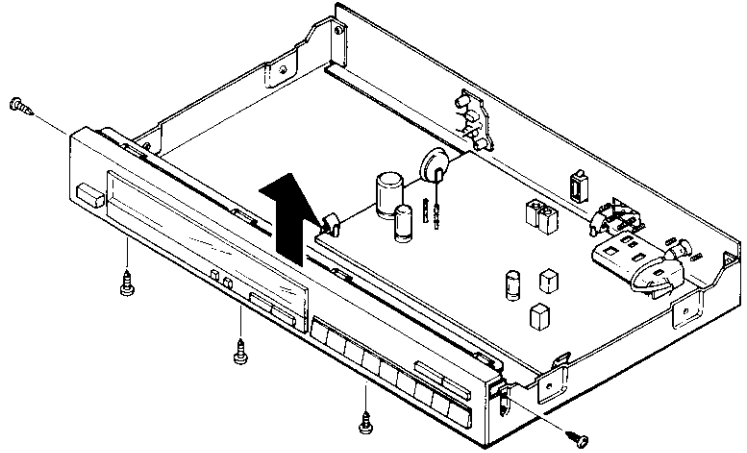

Fig. 7
2. How to remove the FRONT PANEL (Fig. 7)